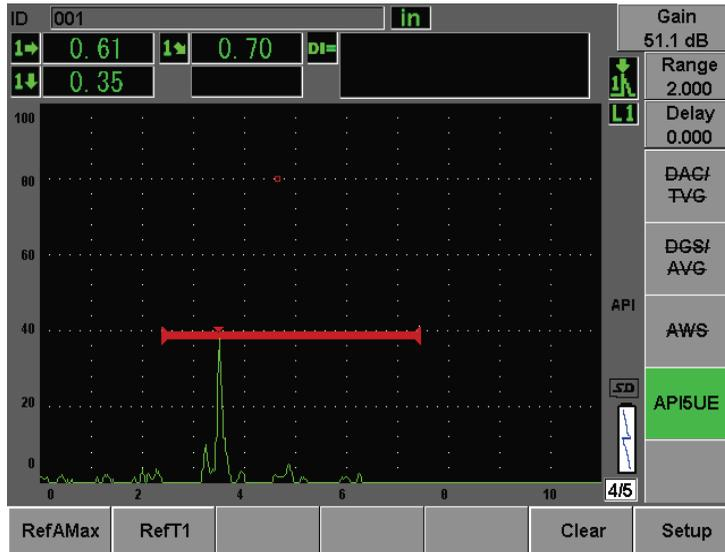

Figure 12-26 Storing the  $T_1$  point
7. Press **[P2] RefT1** to collect the 6 dB drop position of the leading peak and assign this value as  $T_1$  (see Figure 12-26 on page 257).